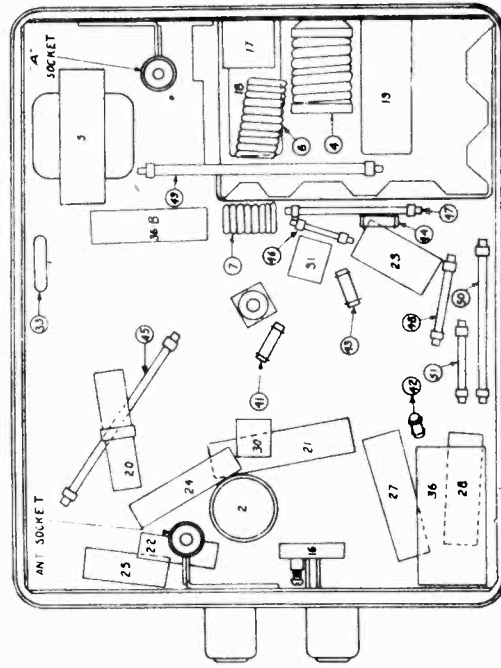

FIGURE 3--PARTS LAYOUT--Bottom View
- (d) Adjust 1400 kilocycle antenna and R-F trimmers, Illus. #10C and 11C (Fig. 3) for maximum output.
- (c) Adjust the antenna compensating condenser (Illus. 16, Fig. 3) for maximum output.
- (b) Adjust the antenna compensating condenser (Illus. 16, Fig. 3) for maximum response from the broadcast station.